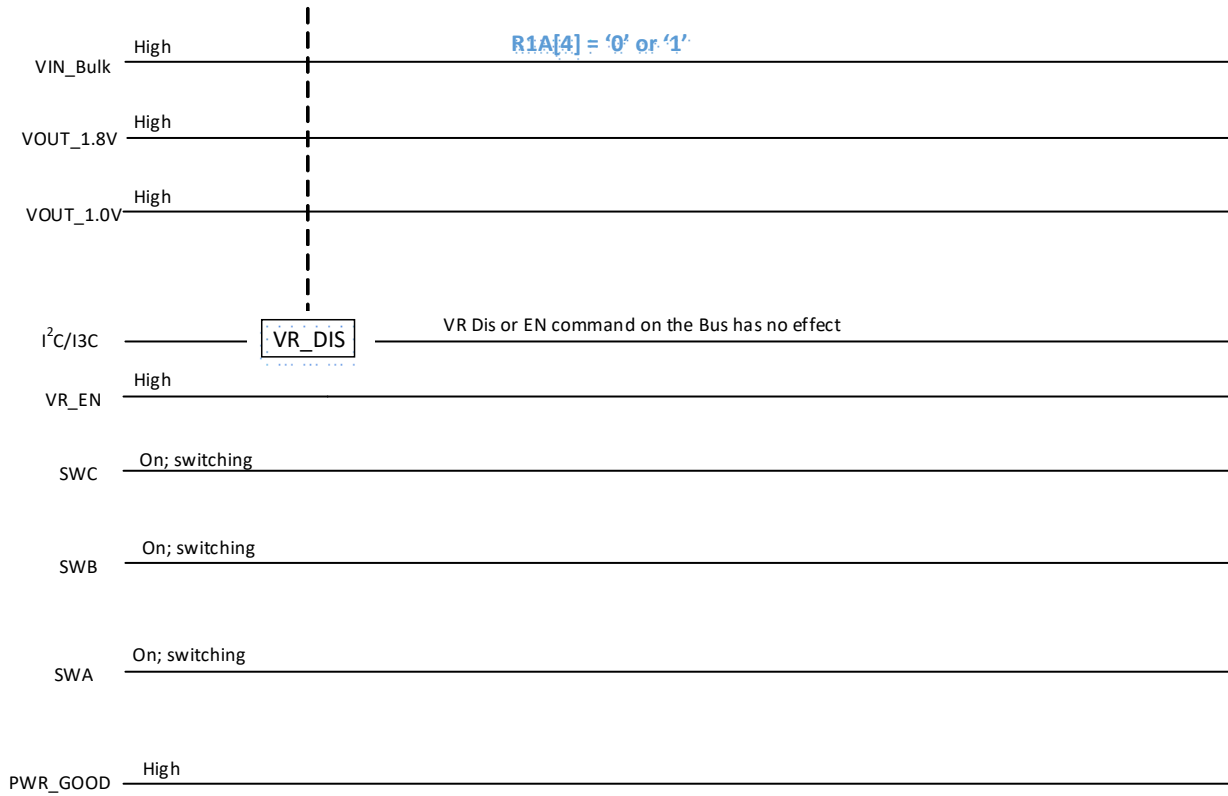

Figure 30 — VR_DIS or VR_EN CMD on Bus; R1A[4]=x; Secure Mode; PWR_GOOD Signal
- a. Note that VR Disable or Enable command on a I²C/I3C Basic Bus (i.e., Table 146, Register 0x32 [7] = '0' or '1') has no effect on the PMIC. Also, configuring one or more bits in Table 143, Register 0x2F [6,4:3] to '0' has no effect on the PMIC. See Figure 30.